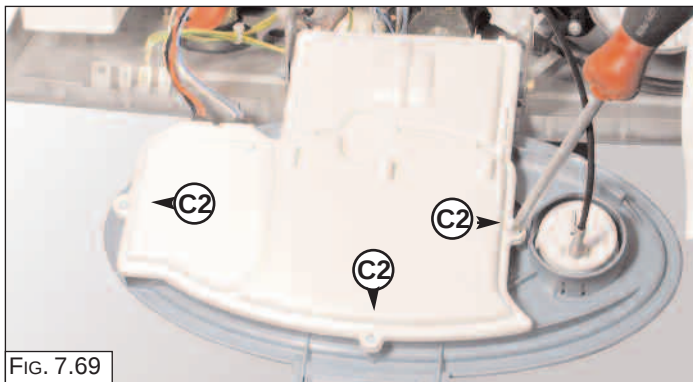

FIG. 7.69
5. Unscrew the screws "C2" (FIG. 7.69);